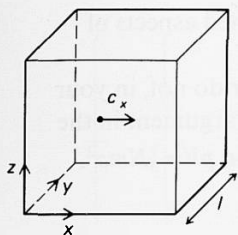

Figure A124
- 62(L)** A molecule of mass  $m$  bounces backwards and forwards between the ends of a box of side  $l$  at a constant speed  $c_x$ , shown in figure A124. Neglecting any recoil of the box and the finite time of each collision, find expressions for